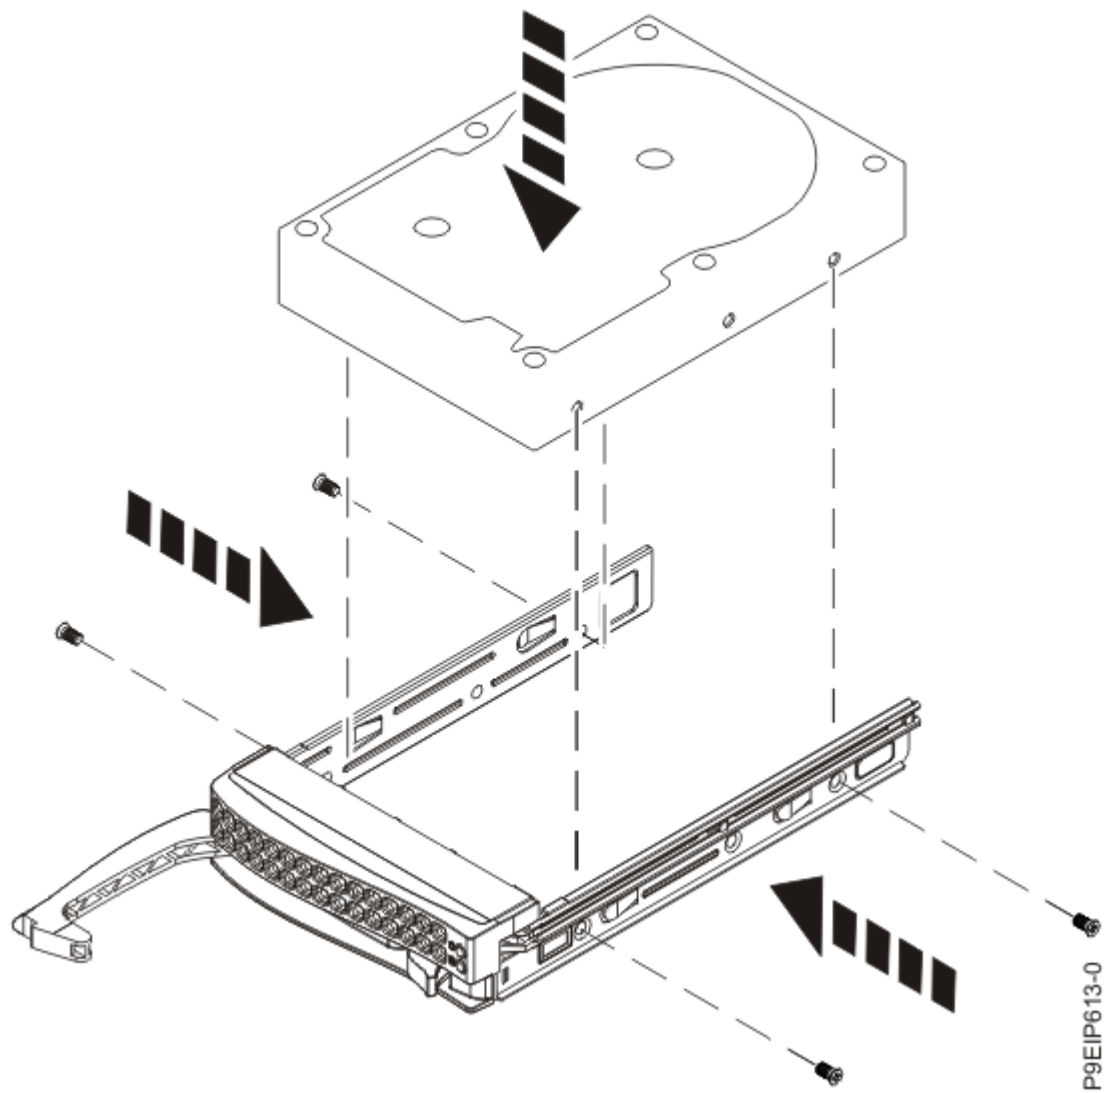

Figure 8. Mounting the 3.5-inch drive in the tray
- A 3.5-inch drive fills the tray, as shown in Figure 8 on page 13. Fasten the drive to the sides of the tray with the screws (two or three screws on each side), depending on the number of threaded holes present on the drive. If the number of threaded holes is greater than the number of screws that are available, use the threaded holes that are closest to each end of the drive.